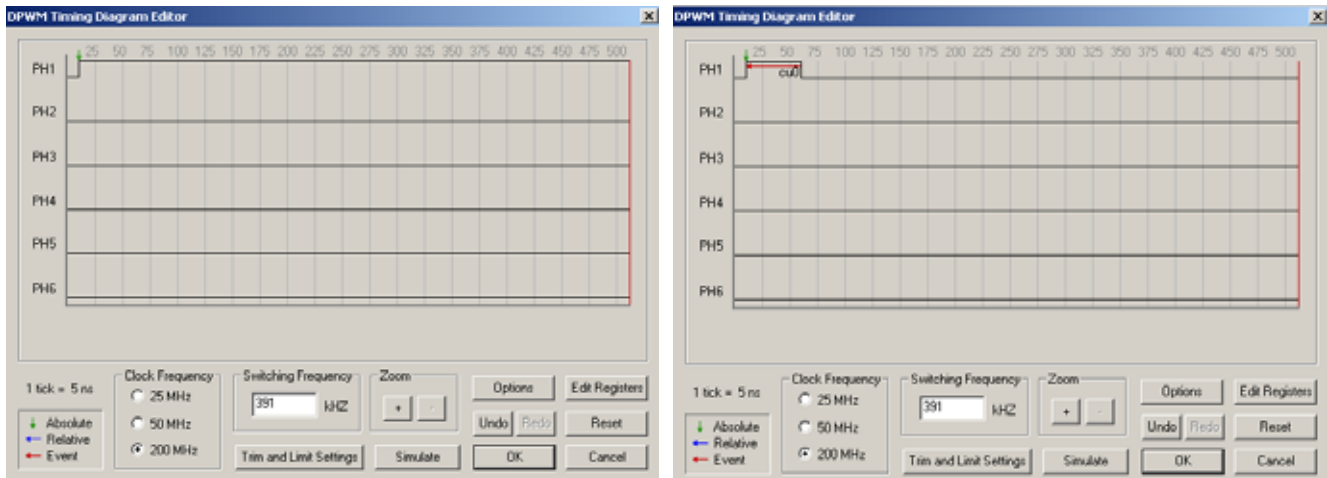

Figure 9. DPWM Timing Diagram Editor—Phase 1
2. To create an absolute edge on Phase 1, hold the mouse above the Phase 1 zero timing line (default) at time tick 10. Then, either double click with the left mouse button or right-click at that point and select **Absolute Edge**. An absolute edge at time tick 10 will be created (see Figure 9).
3. To finish the timing for Phase 1, specify hardware modulation using **(Cu0)**. This event edge will be modulated relative to its absolute edge at time tick 10. To create this edge, hold the mouse above the Phase 1 timing line to the right of time tick 10 at time tick 60. Either double-click or right-click at that point and select **Event (Cu0) Edge**. Next, select the edge to reference by clicking on edge 1 in Phase 1. A relative falling (Cu0) edge will be created at time tick 60 since u(n) defaults to 50 (see Figure 9).